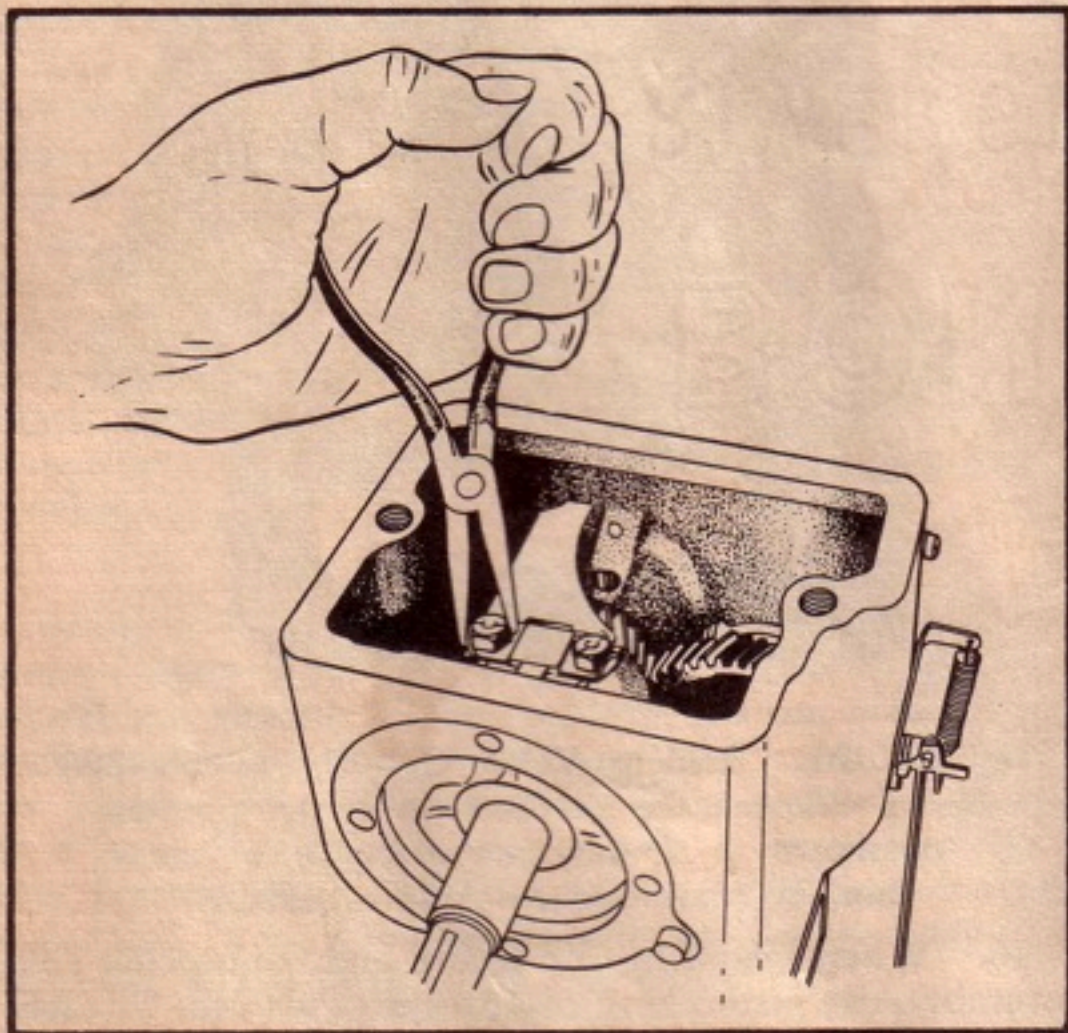

Figure C-25. Locking Connecting Rod Bolts
18. After tightening connecting rod bolts, bend the bolt locks up against one side of the bolt heads, as shown in figure C-25.